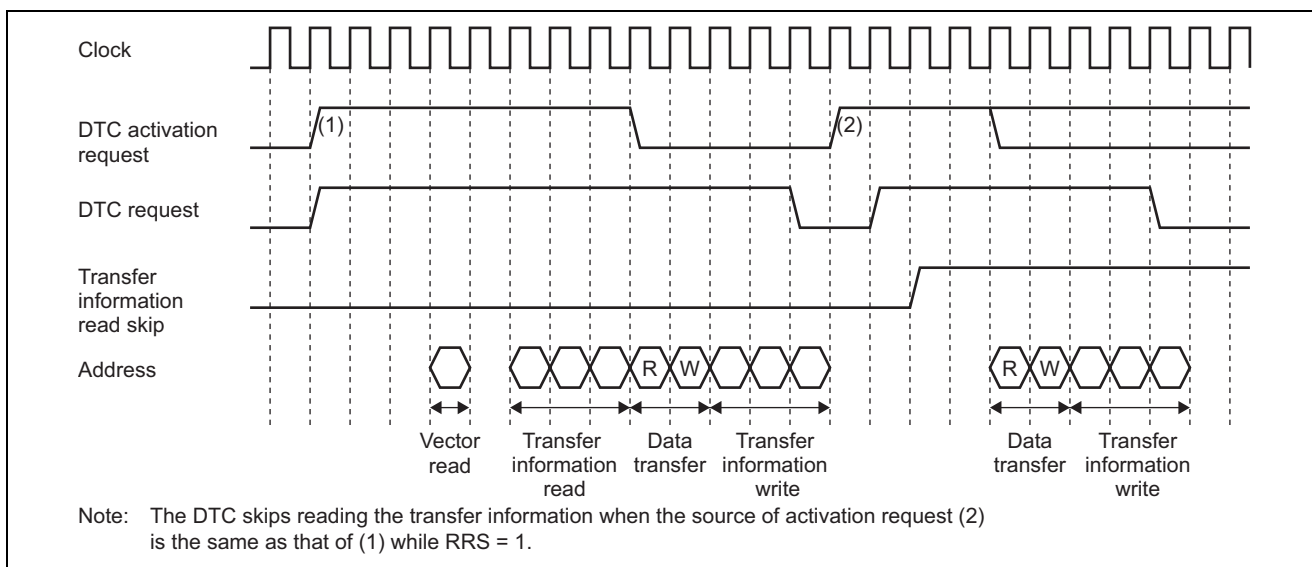

Figure 5 Timing
- Figure 5 shows the timing of the transfer information read skip processing.
- When the DTC is activated for the first transfer, the DTC reads the vector and then reads the transfer information after the DTC activation request (1).
- When $RRS = 1$, the DTC skips reading the vector and transfer information for the second DTC activation request (2).